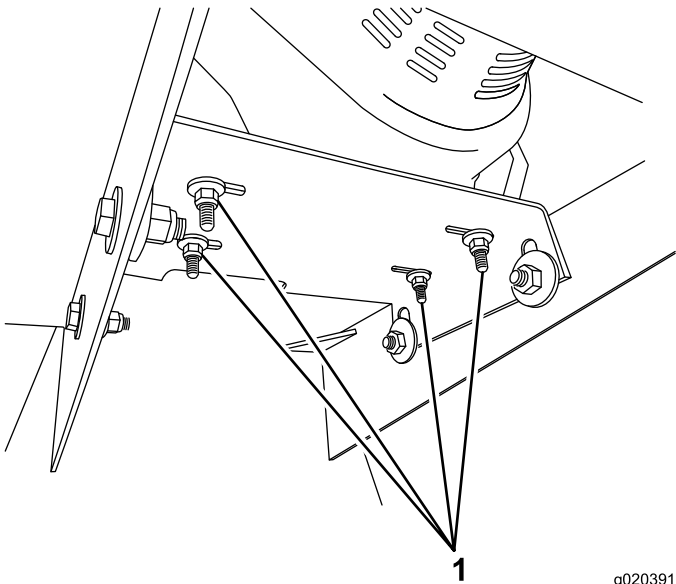

Figure 43
2. Loosen the 4 nuts and bolts that secure the engine to the engine-mounting plate (Figure 43).